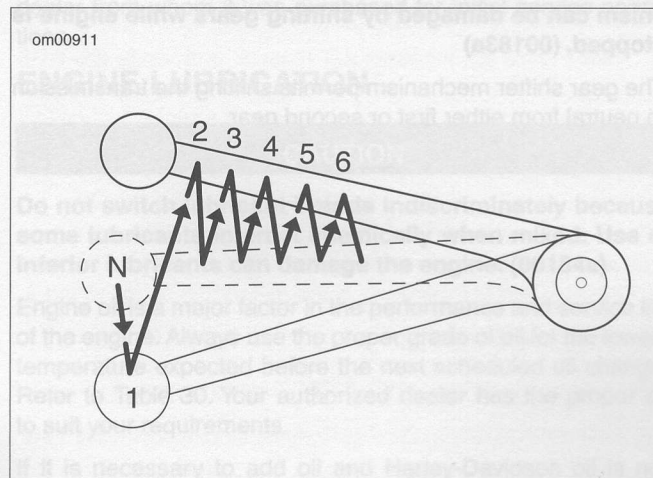

Figure 42. Shifting Sequence: Upshift
3. See Figure 42. Lift the gear shift lever up to the end of its travel and release.